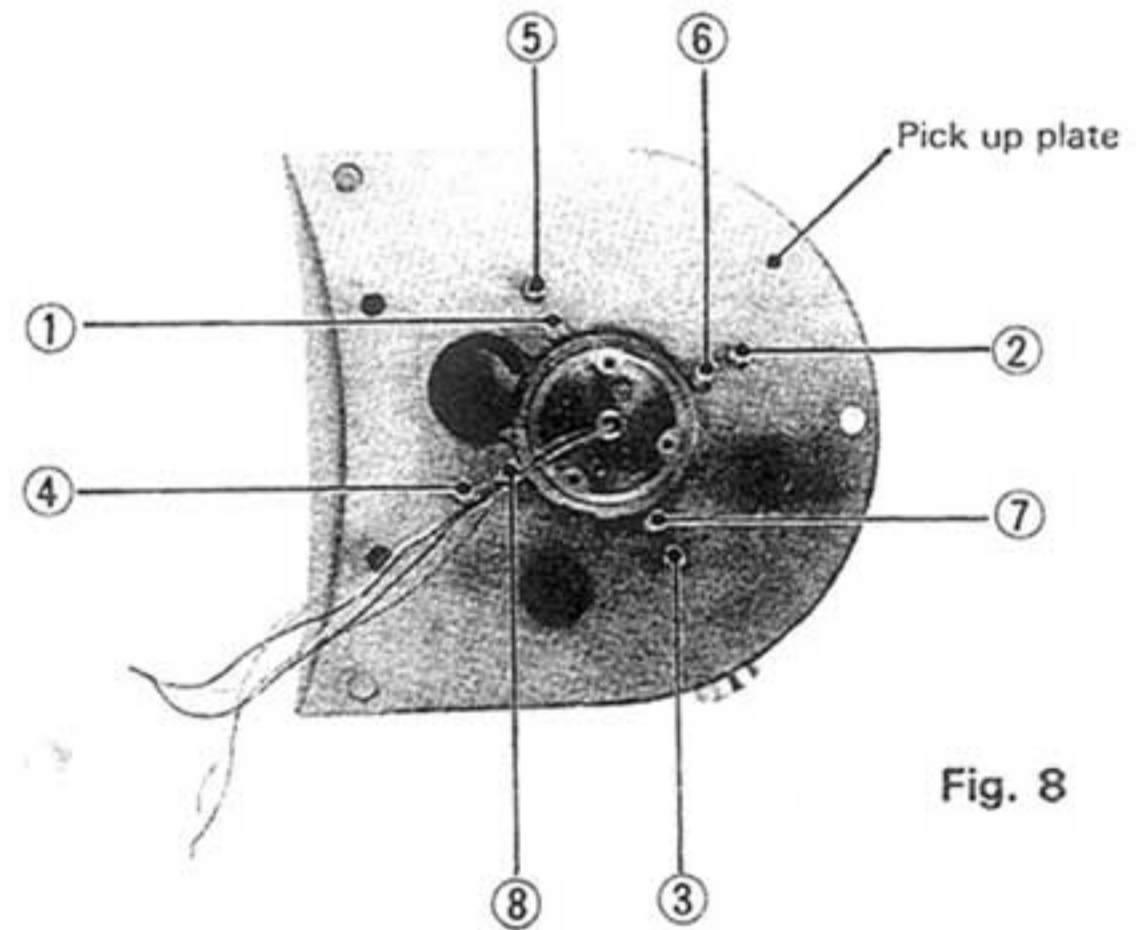

Fig. 8
4. Remove screws ①-⑧ shown in Fig. 8, and take out the pick up plate.